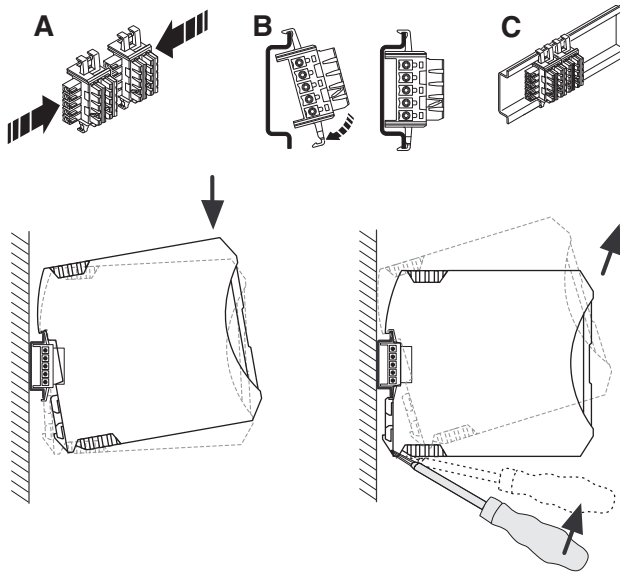

Figure 4 Mounting and removal
- When using the DIN rail connector, first insert it in the 35 mm DIN rail according to EN 60715 (see A - C, Figure 4). The DIN rail connector is used to bridge the power supply. Please also observe the direction of the module and DIN rail connector when snapping into position: Snap-on foot below and connector left.